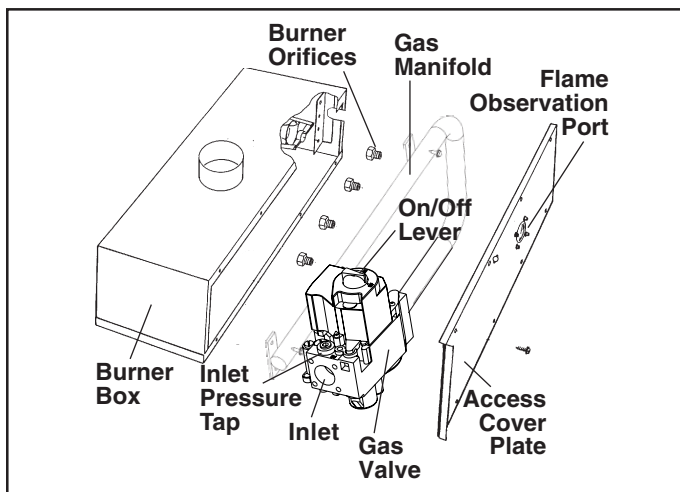

Figure 2. Typical Sealed Burner Box With Access Cover Plate
5. If present, disconnect the rubber pressure tubes from the gas valve and the burner box. Note the pressure tubes are present only on the sealed combustion burner box, which is shown in Figure 2.
6. If present, remove the burner access cover plate from the burner box. Note that the burner access cover plate is present only on the sealed combustion burner box, which is shown in Figure 2.
5. Reconnect the rubber pressure tubes to the gas valve and the burner box. Reinstall the burner access cover plate. Note that this step is only for the sealed burner box, which is shown in Figure 2.